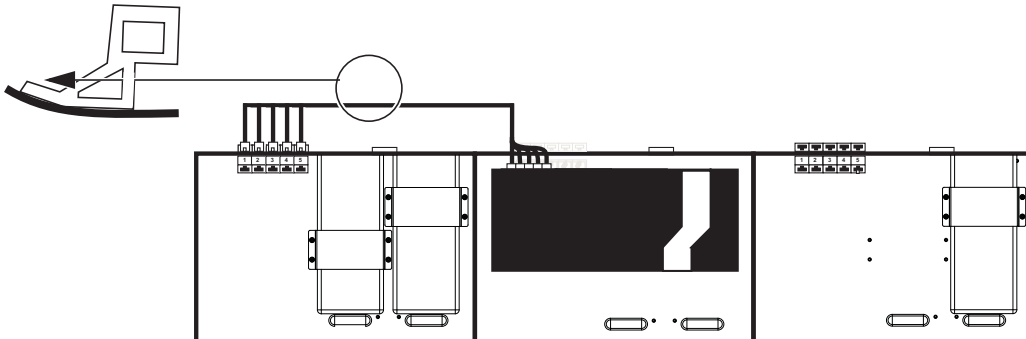

Figure 18. Connecting the first Cable Set to the first (left-most) chassis Ethernet terminal ports
- 3 Run the Cable Set through the (lower) triangular cable guides in the Rear Panel brackets to the furthest (left- or right-most) chassis, as shown in Figure 18. (For systems with more than three chassis, see “Installing Cable Sets in Large Configurations” on page 46.)